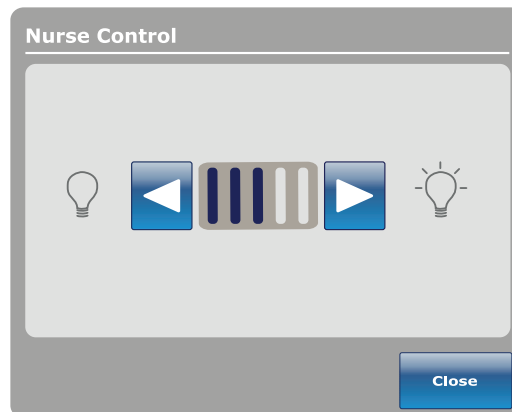

Figure 87: Nurse control LED intensity
2. Tap the left or right arrow (Figure 87 on page 75).
3. To save the LED intensity setting, tap **Close** (Figure 87 on page 75).